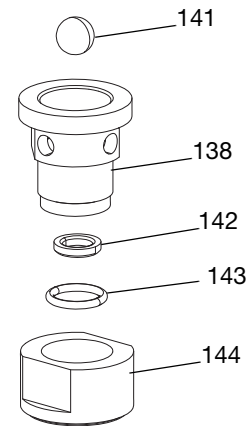

FIG. 7
- Assemble upper check assembly (AA). Apply anti-seize lubricant to the check housing (138), spring retainer (137) and check valve retainer (144).
- Install the O-ring (143) and then the carbide seat (142) into the check valve retainer (144). The check housing (138) then threads into the check valve retainer and is torqued to 50 ft-lbs (67.5 N•m).
NOTE: The sharp corner of the outside diameter of the carbide seat (142) must face towards the check housing (138) and the ball (141). See FIG. 7.